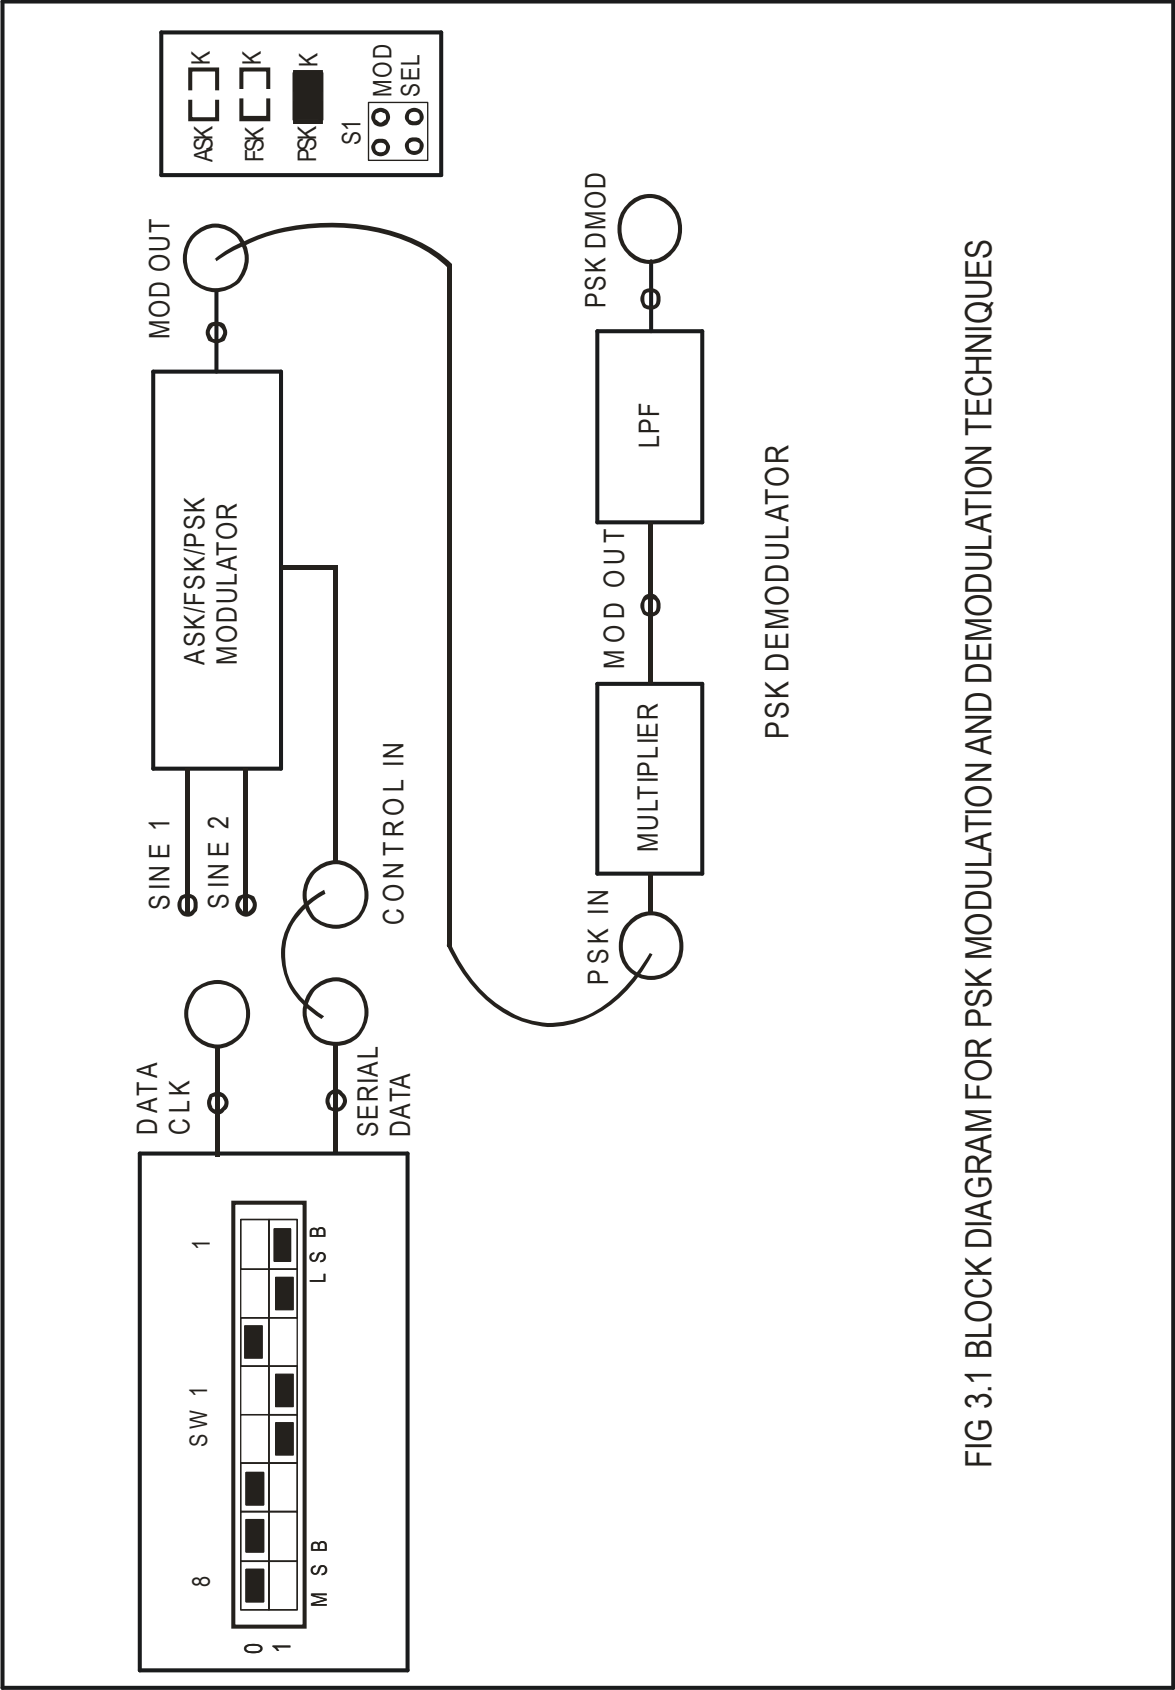

FIG 3.1 BLOCK DIAGRAM FOR PSK MODULATION AND DEMODULATION TECHNIQUES
1. Refer to the Fig. 3.1 and carry out the following connections and switch settings.